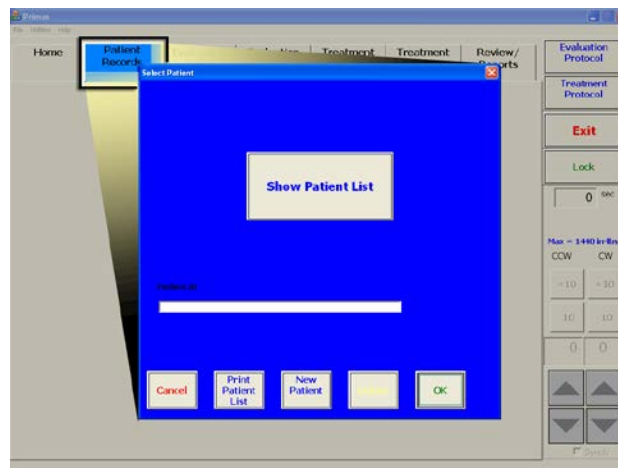

Figure 3b
Step 1. Click the *Patient Record* tab at the top left of the screen (outlined in black in Figure 3b).
Step 2. Click the “Show Patient List” button (visible in Figure 3b) and enter your password.